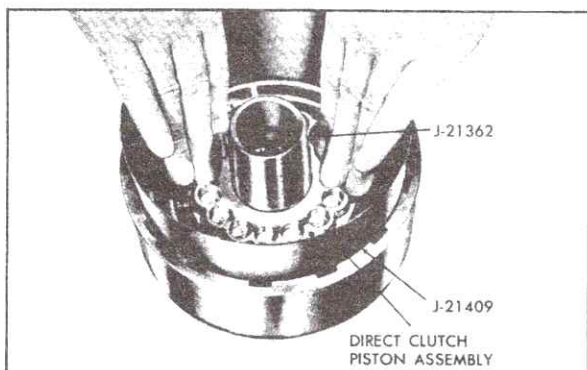

Fig. 7-183 Installing Direct Clutch Piston
- c. Place Forward and Direct Clutch Inner Seal Protector, J-21362, over direct clutch hub. Install clutch piston inside Forward and Direct Clutch Piston Installer, J-21409, insert assembly in direct clutch housing, Fig. 7-183, and install clutch piston by rotating it slightly, in a clockwise direction.